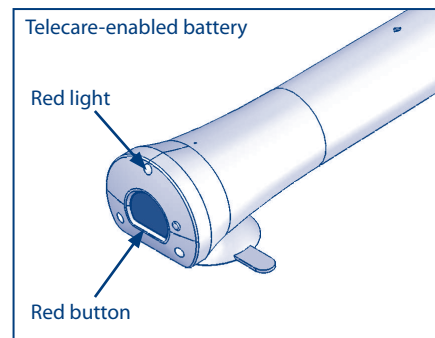

Figure 3
If you have a telecare-enabled bath lift, you will find a telecare-enabled battery inside your bath lift box rather than the standard battery (see fig 3).
- iii) Press the red button on the end of your bath lift's telecare-enabled battery (see fig 3) and a red light will illuminate at the end of the battery. The Lifeline unit will beep to confirm acceptance.
- i) To raise an alarm while using the bath lift, press the red button on the end of the battery (see fig 3). This will allow you to talk to the control centre operator 'hands free' using the powerful speaker and microphone of the Lifeline 400, 4000+ and Connect+.